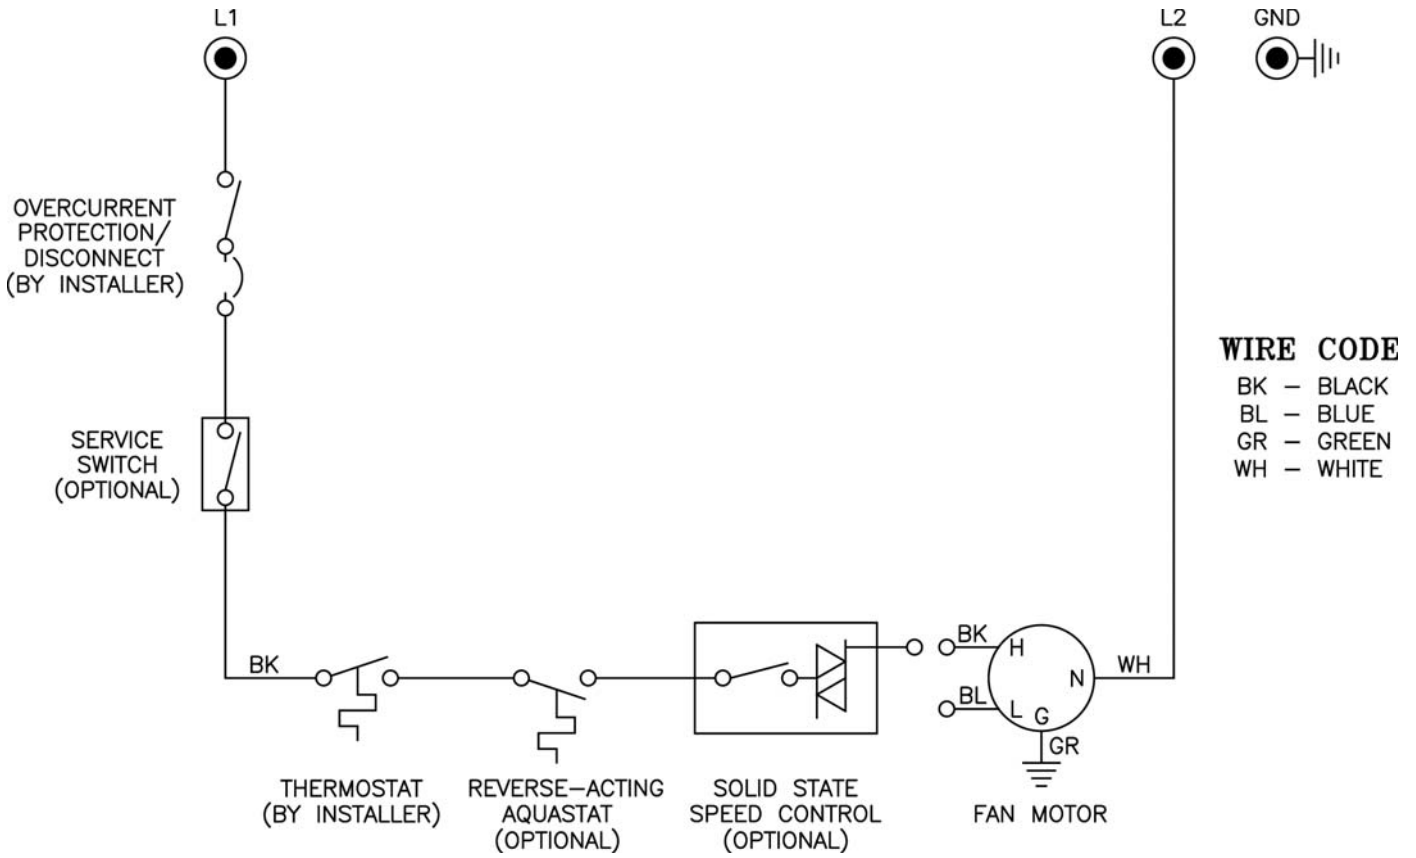

Figure 3: 115V / 60Hz / 1PH Wiring Schematic
1. Disconnect power supply before making wiring connections to prevent electrical shock and equipment damage. All units must be wired strictly in accordance with wiring diagram (Figure 3).